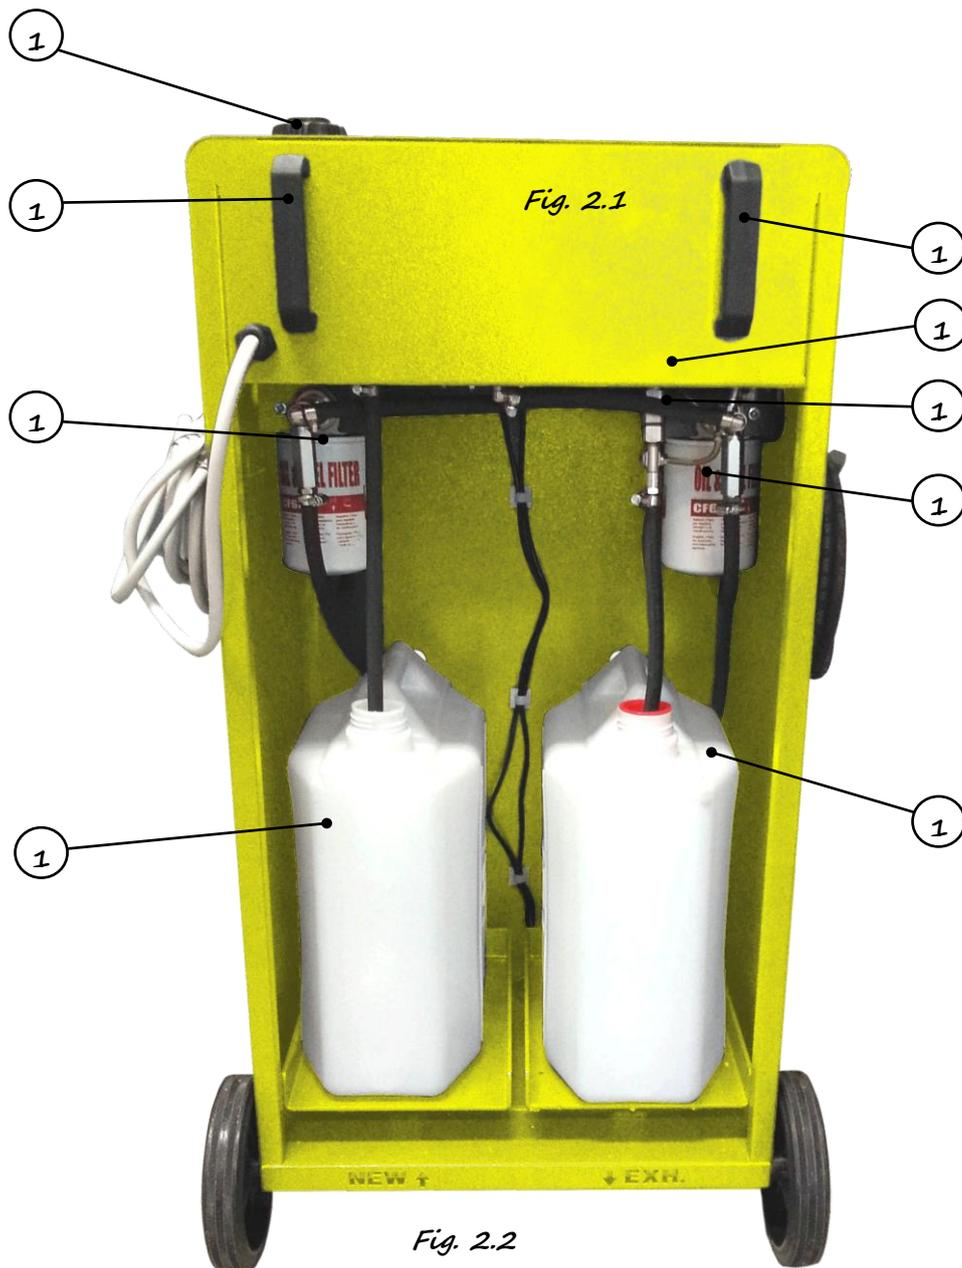

Fig. 2.2
- Place the **NEW FLUID** tank in the rear compartment of the **ATF EXCHANGER (NEW ↑)**, as shown in figure 2.2.
- Place the **USED FLUID** tank in the rear compartment of the **ATF EXCHANGER (↓ EXH.)**, as shown in figure 2.2.
The regulator positioned on the rear of the machine (Ref.13, Fig. 2.2) **MUS NOT BE TAMPERED** as it is for the **EXCLUSIVE USE** for **TECHNICAL SERVICE**.